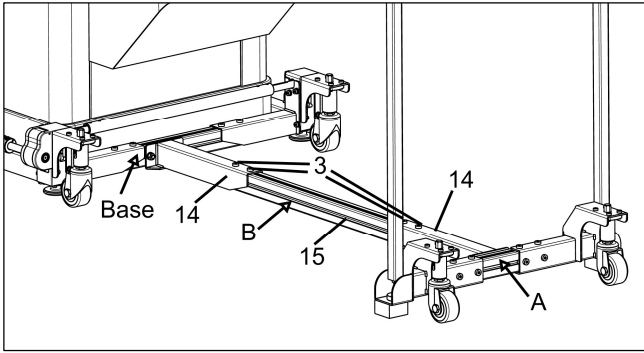

Fig. 23
d. Fix one end of the extension bar assembly "B" to the base and the other end to the leg support bracket assembly "A". Adjust the position of the extension bar "15" so both ends inserted into the rod brackets "14" are more than 2-5/32", then tighten fasteners "3". (see **Fig.23**)